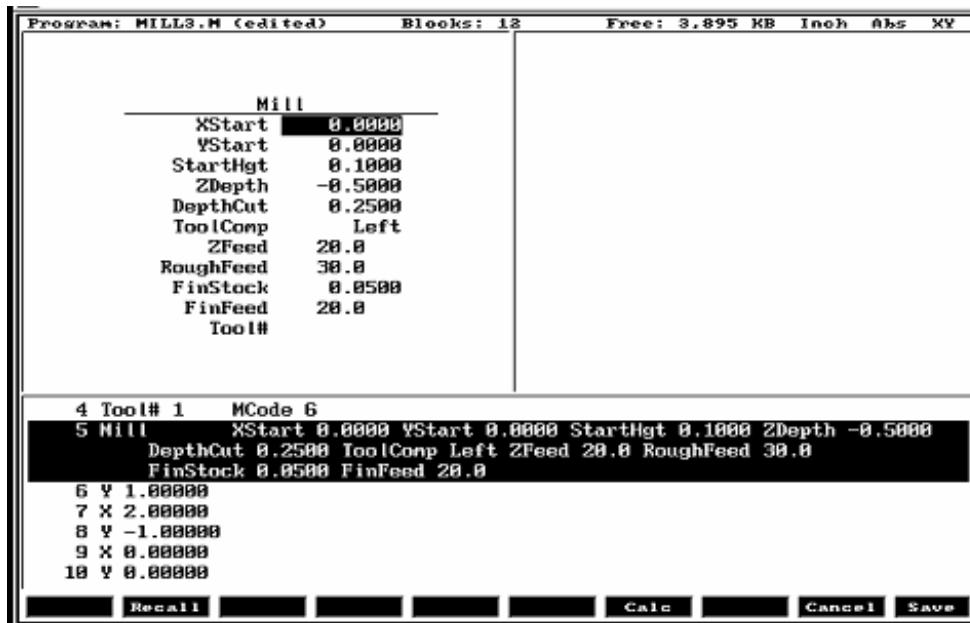

Figure 4-55, Mill Cycle Screen
1. In Edit mode, press **Mill** (**F5**) and **MillCyc** (**F1**) to display the Mill Cycle screen, **Figure 4-55**.